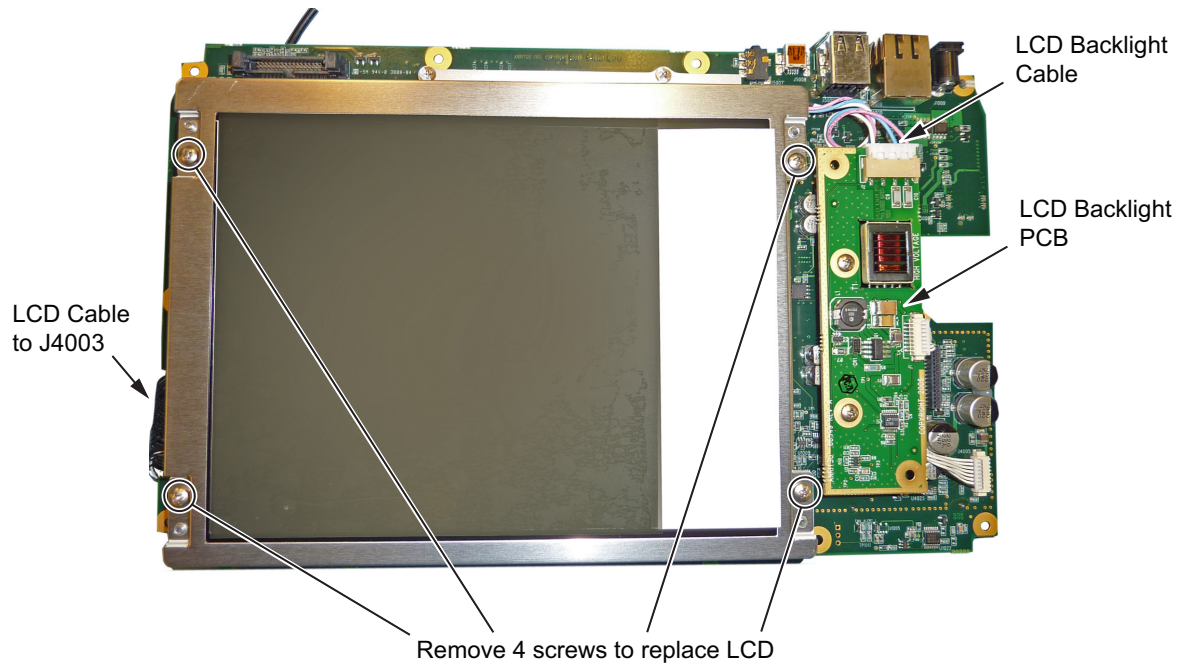

Figure 7-7. Replacing the LCD
3. Use a Phillips screw driver to remove the four screws securing the LCD to the Main PCB assembly (Figure 7-7).